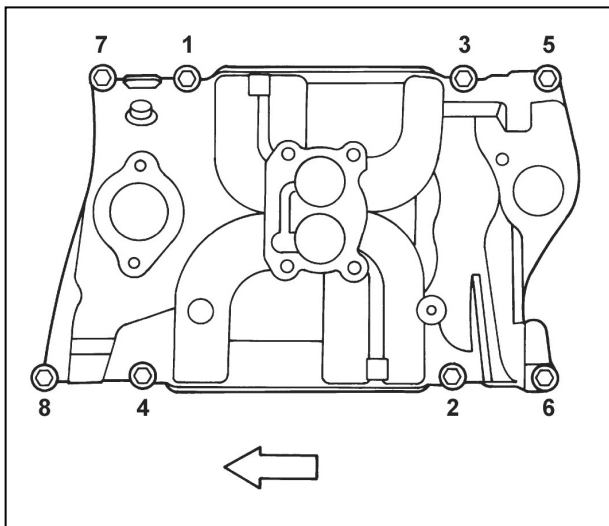

Figure 12-90 Intake Manifold Tightening Sequence
- Intake manifold bolts in three steps using sequence shown in figure 12-90.